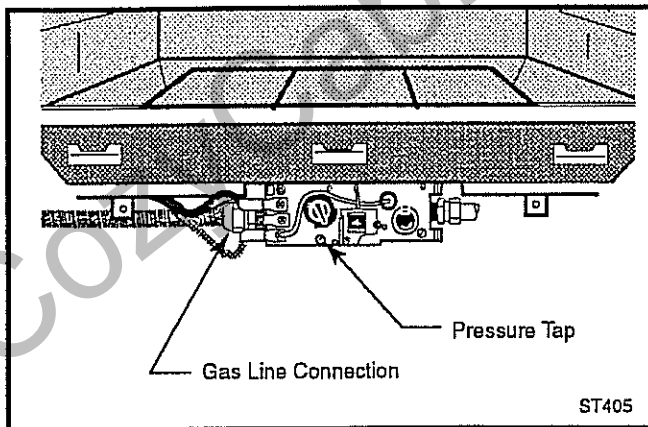

Fig. 55 Connect the gas line to the left side of the valve.
1. Connect the main gas supply to the control valve inlet using a 3/8" NPT male fitting. (Fig. 55)
2. Pressure test the system using the tap accessible on the front of the control valve. (Fig. 55)